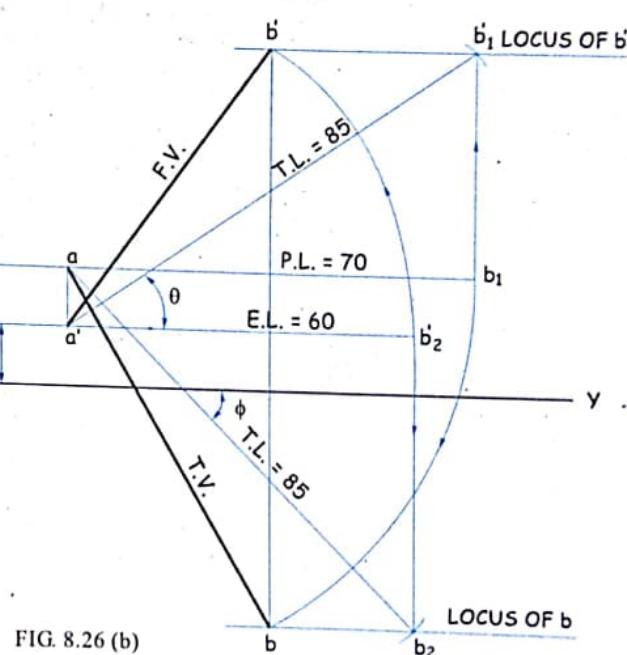

FIG. 8.26 (b)
**Stage I :** Refer figure 8.26 (a).